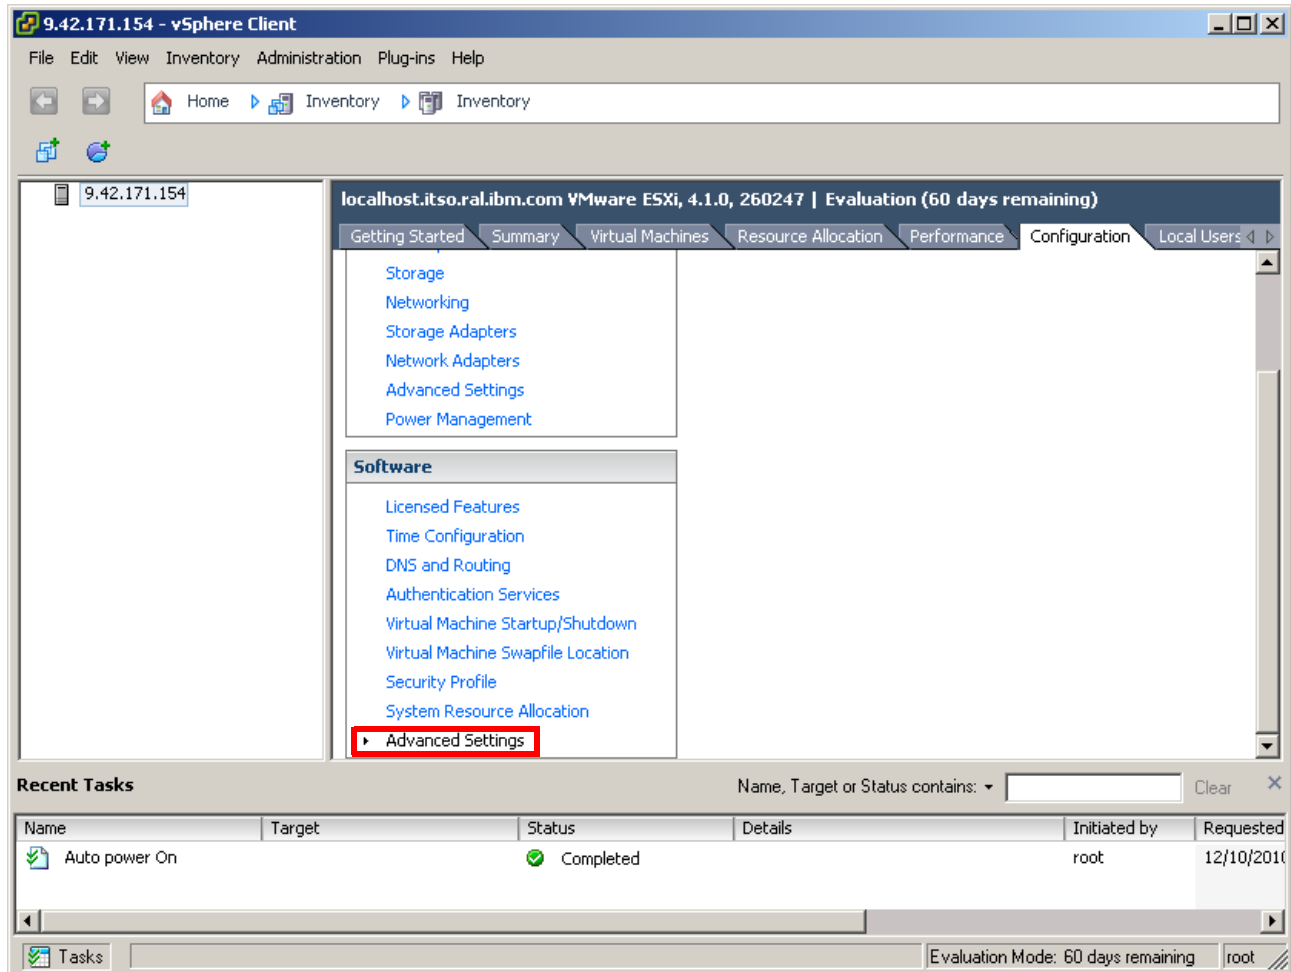

Figure 8-55 Configuration tab Software Advanced Settings
2. Select the **Configuration** tab of the host and click **Advanced Settings** in the Software panel, as shown in Figure 8-55 on page 419.